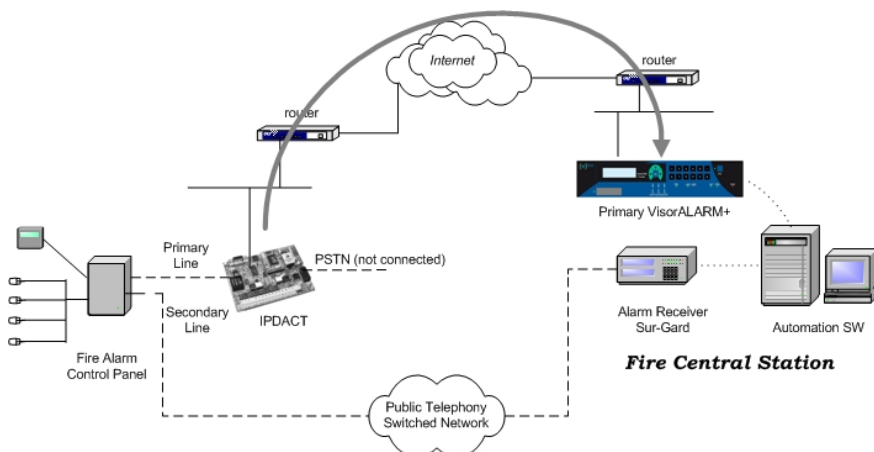

Figure 2. Teldat VisorALARM and IPDACT-2(UD) operating scenario
Within the general user scenario, the IPDACT-2(UD) device is located in the client area, next to the control panel, intercepting the telephone line. This is displayed in **Figure 2**. The arrow in the figure demonstrates the preferred path to send alarms from the CP; here the telephone line is used as a backup in case there is a communication malfunction in the IP network.